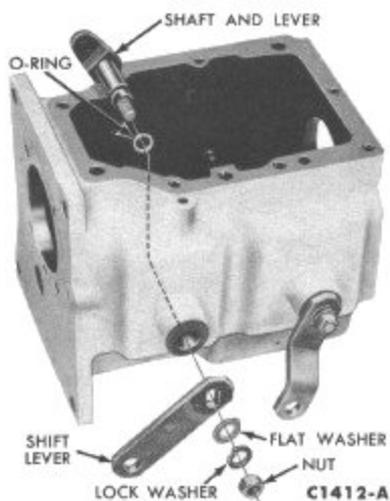

FIG. 49—Shift Levers and Lever and Shaft Disassembled
25. Remove the nut, lock washer and the flat washer that secures each shift lever (Fig. 49) to the lever and shaft. Lift the shift levers off the shafts. Slide each lever and shaft out of the case. Discard the O-ring from each shaft.
9. Install a new O-ring on each of the two shift lever shafts (Fig. 49). Lubricate the shafts with transmission lubricant and install them in the case. Secure each shift lever to its respective shaft with a flat washer, lock washer and nut.